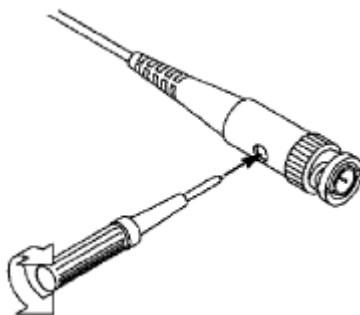

Figure 4-7 Adjust Probe
2. Check the displayed waveforms and regulate the probe till a correct compensation is achieved (see *Figure 4-6* and *Figure 4-7*).